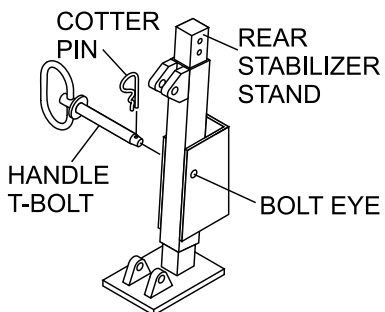

Figure 17. Rear Stabilizer Jack
2. Remove the cotter pin (Figure 17) from the handle tee bolt eye, and then pull the handle tee to release the stabilizer jack.